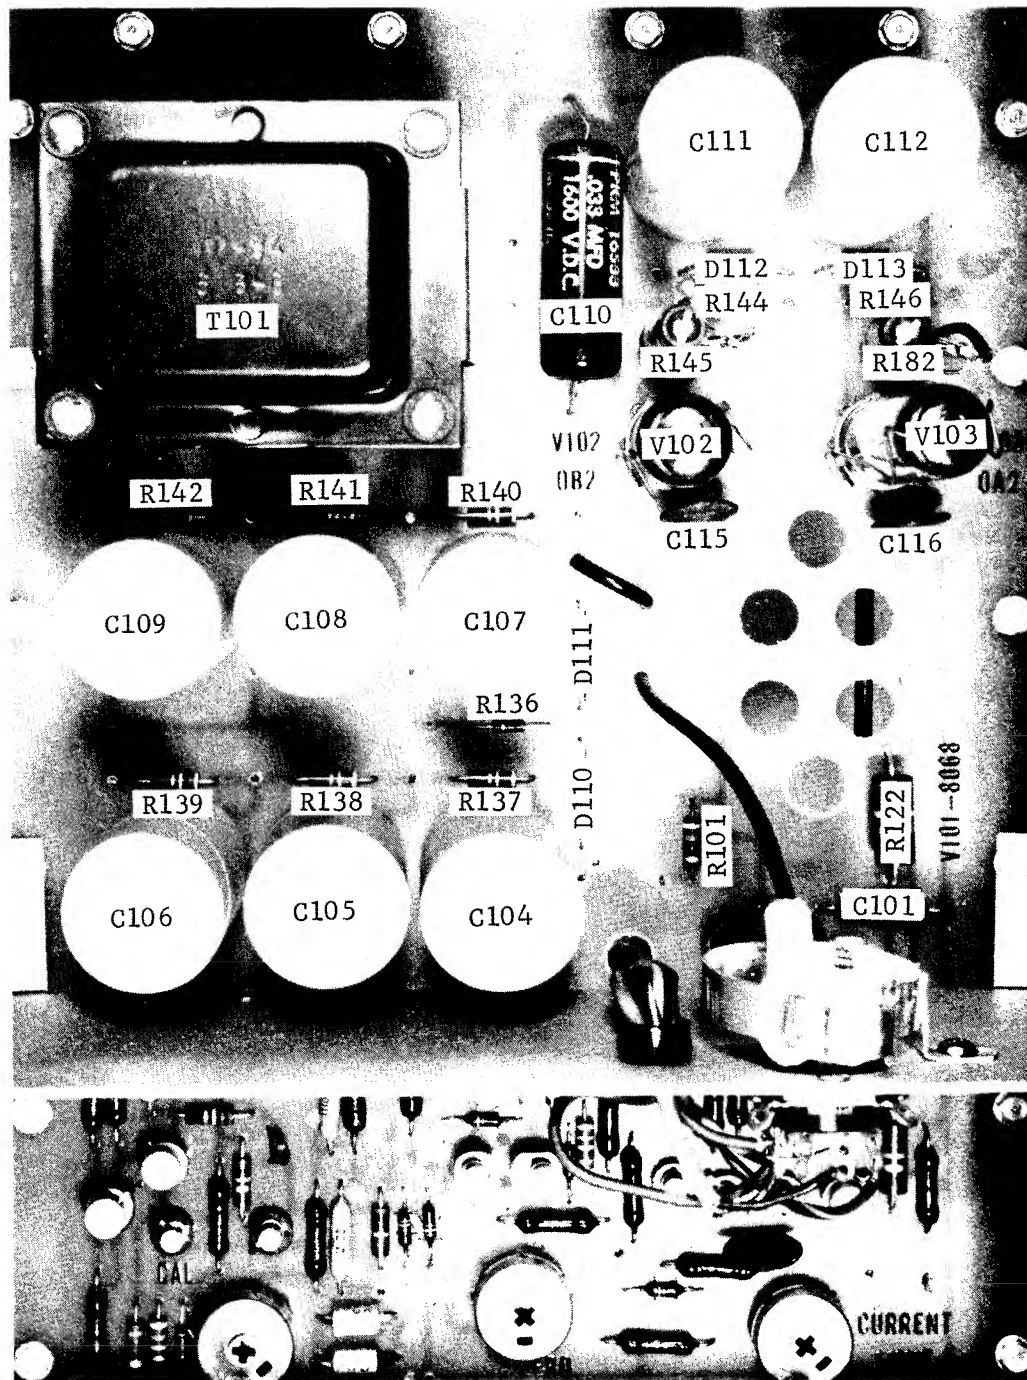

FIGURE 12. Component Layout, PC-117 (Part 2).
b. Removing tubes V102 and V103 (Figure 12) from their sockets unloads the low voltage winding of the transformer.